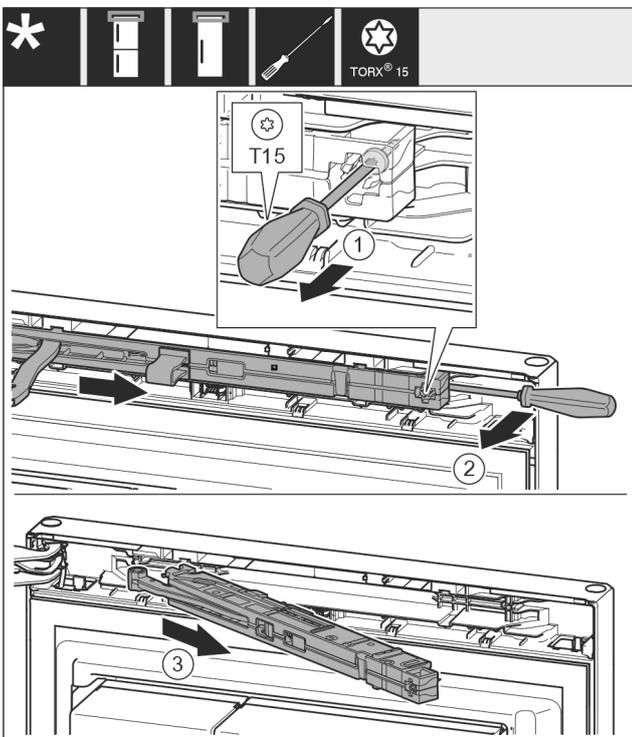

Fig. 14
- ▶ Use screwdriver to loosen the screw Fig. 14 (1) on the closing damper unit by 14 mm.
- ▶ Lever the closing damper unit Fig. 14 (2) forwards on the handle side using a screwdriver.
- ▶ Pull out the closing damper unit Fig. 14 (3).